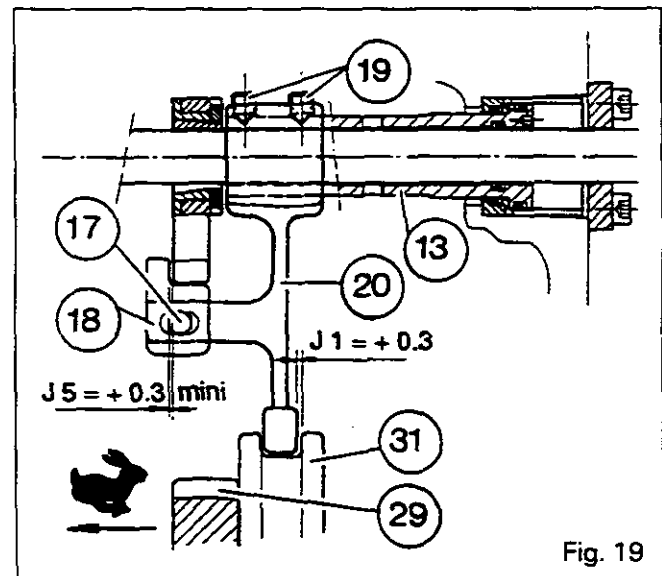
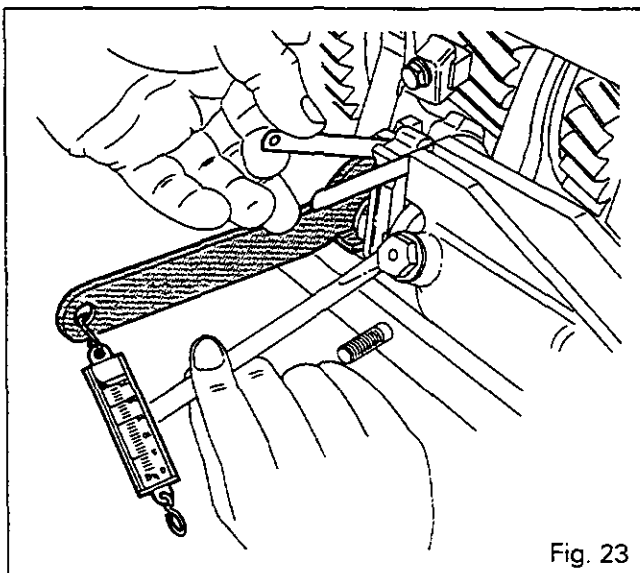

Fig. 19
Fig. 23
76. Hold the synchromesh against the high range gear (29). (See Fig. 19).
77. Adjust the position of the fork (20) by acting on the two adjusting screws (19) after cleaning them with solvent and coating them with Loctite 221, in order to obtain a play of $J1 = 0.3$ mm between the rear face of the pad and the synchromesh slide rod (Figures 19 and 20).
84. Tighten the castellated nut (21) to a torque of 50 Nm using a spanner 3615334 M1 and a spring scale (Fig. 23).
85. Apply Loctite 648 on the tightening face of the slider (18) and Loctite 241 on bolt (17). Fit the washer and the bolt.
86. Adjust plays J5 and J6 (min. = 0.3 mm) evenly between the slider and the lock in the Hare and Tortoise positions (Figures 19 to 21 and 24).